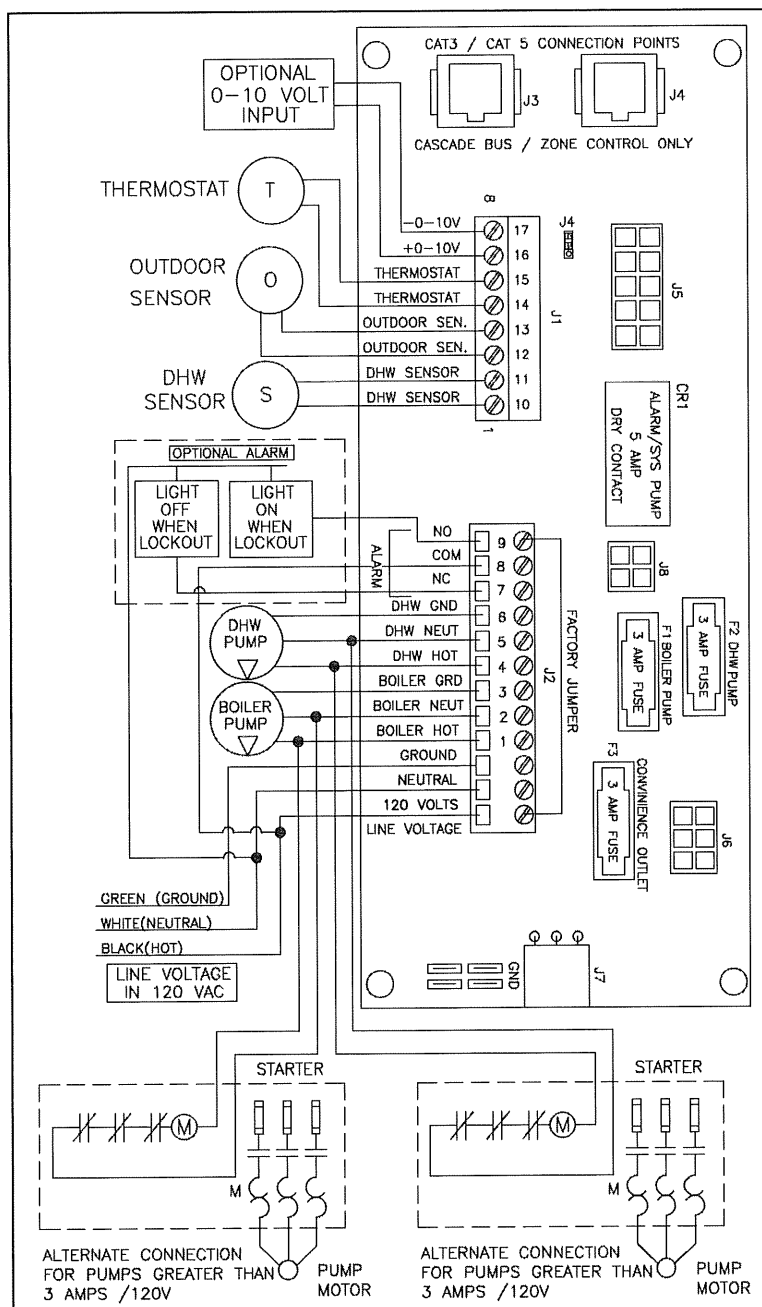

Figure 26 – LP-293-NN Elite Boiler Control
1. Connect 120V / 60Hz / 15 AMP incoming power wiring to the line voltage terminal strip in the electrical junction box at terminals 120V, Neutral, Ground (shown in Figure 26).
3. Connect the boiler pump as shown in Figure 26 to the
The control includes a dry contact alarm output. This is an SPDT circuit, rated at 5 amps at 120 volts. This contact can be used to activate an alarm light or bell or notify a building management system if the boiler goes into a lockout condition. The circuit between the ALARM COM and NC terminals is closed during normal operation and the circuit between ALARM COM and NO is open during normal operation. The connections depicted in Figure 26 show two 120 volt lights connected to the alarm terminals. One light will be on when the boiler is in normal mode and the other light will be on when the boiler is in lockout mode.
2. Connect the indirect sensor (7250P-325) to the terminals marked DHW SENSOR (shown in Figure 26) in the electrical junction box.
2. Connect a building management system or other auxiliary control signal to the terminals marked 16, 0-10 VOLT + and 17, 0-10 VOLT – in the electrical junction box (shown in Figure 26). Caution should be used to ensure that the 0-10 VOLT + connection does not become connected to ground.
3. Move jumper on connection board (shown in Figure 26) from A to B.